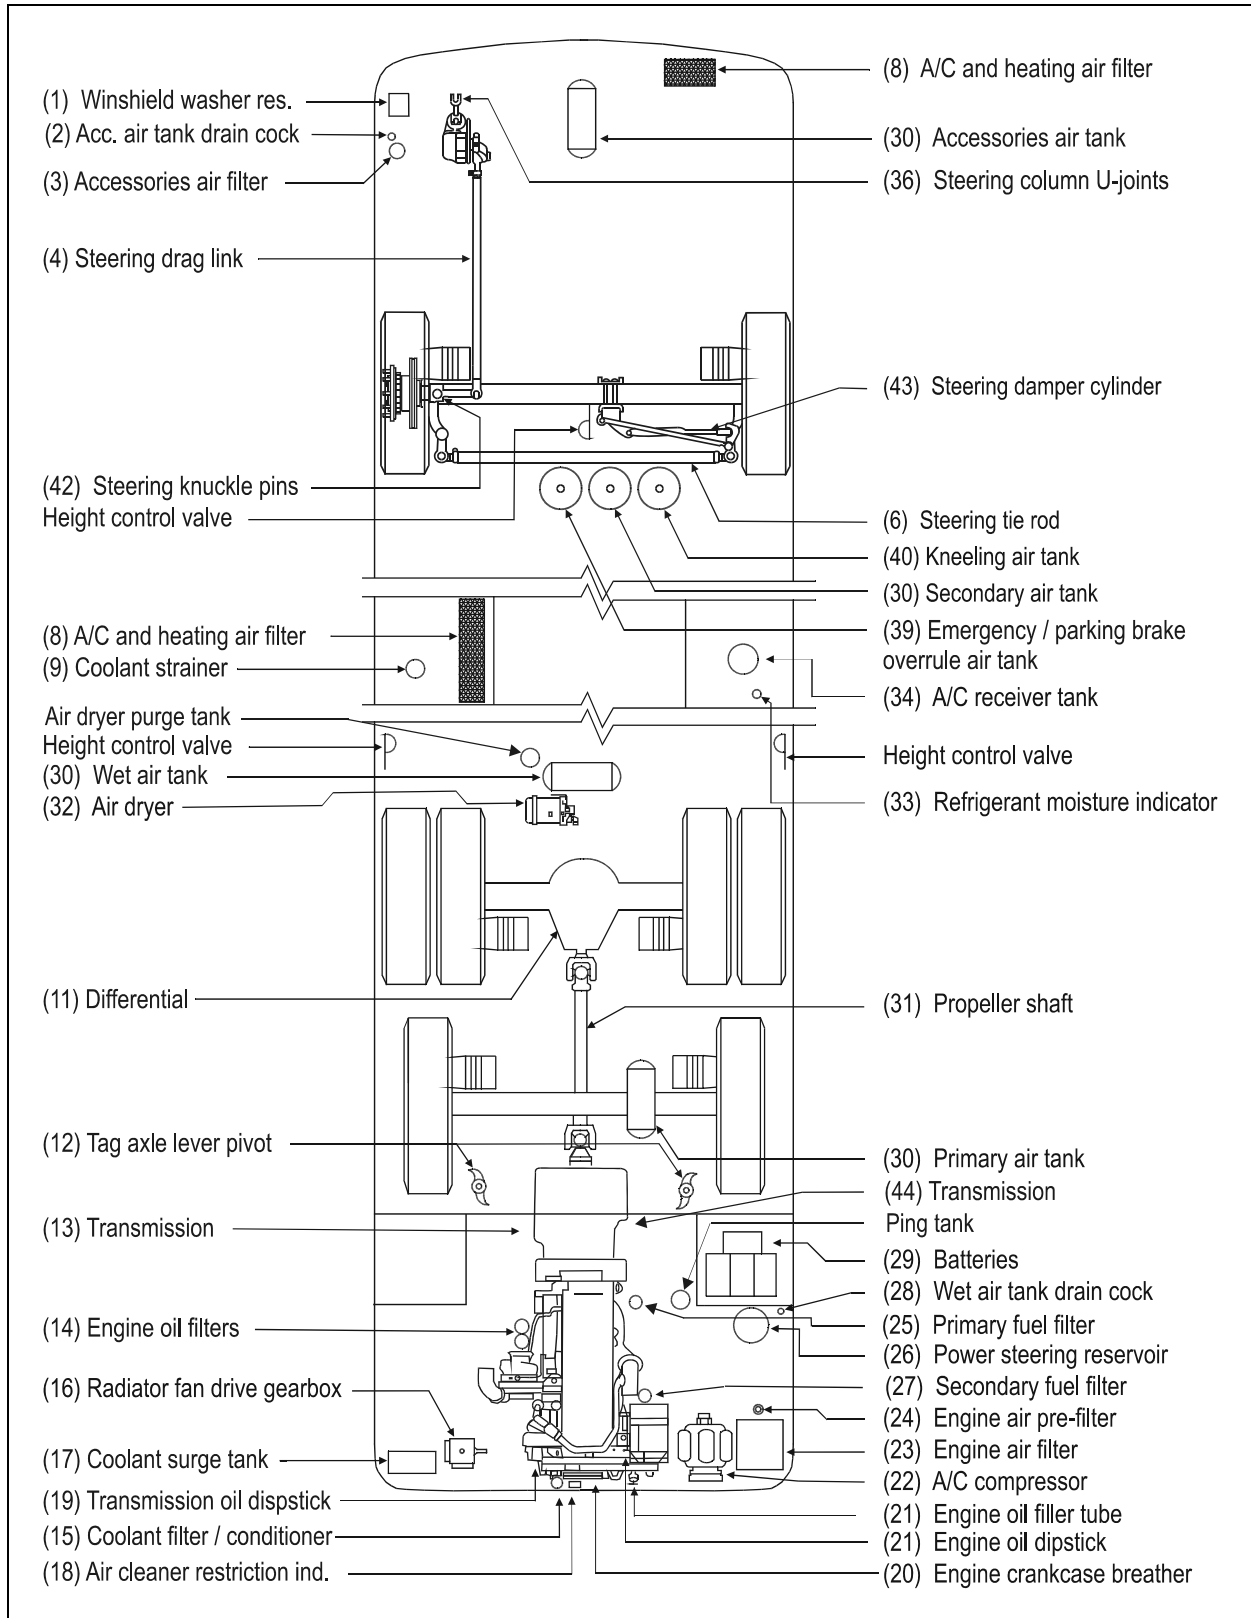

FIGURE 2: LUBRICATION AND SERVICING POINTS ON I-BEAM FRONT SUSPENSION VEHICLES (TYPICAL)
● Item numbers refer to figures 2 and 3.
- Item numbers refer to figures 2 and 3.